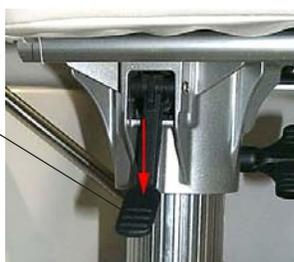

Figure N8: Locking Position
4. Rotate the bucket seat inboard (towards the center of the boat) until it faces as far aft as possible or desired. Once in position, push down on locking lever to lock seat in position. See Figure N8.
3. Rotate the bucket seat inboard until it is in the forward facing position. Once in position, push down on locking lever to lock seat in position. See Figure N8. In addition, **DO NOT USE FORCE** to rotate the chair.